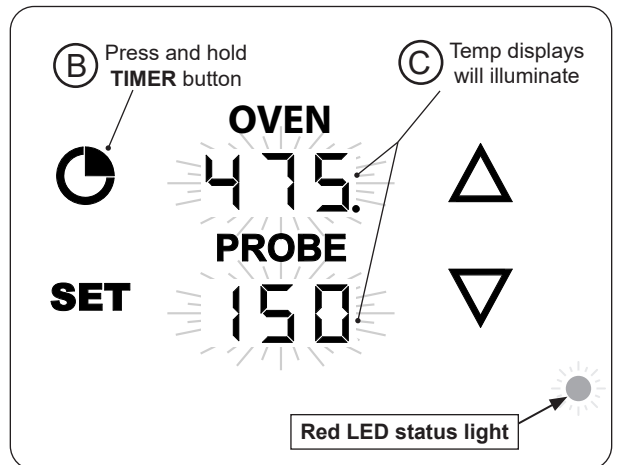

Fig. 35-2 Turn on thermostat
3. Press and hold the **TIMER** button (see Fig. 35-2, B) until the remainder of the displays illuminate (see Fig. 35-2, C). (The red LED status light indicates the unit is in the lighting process.)
For your convenience and safety, when the ignition system is lighting the unit AND when the burners are lit, the red LED status light will illuminate (see Fig. 35-2).